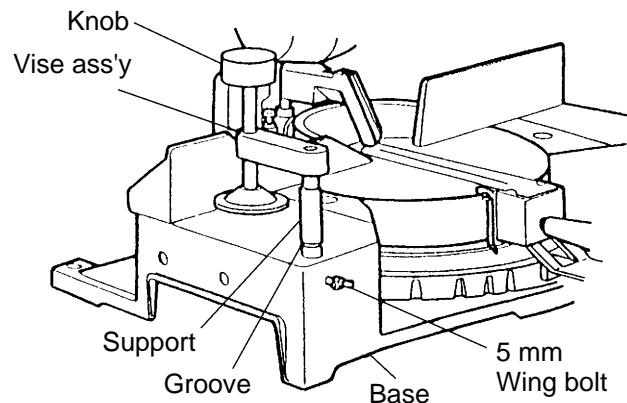
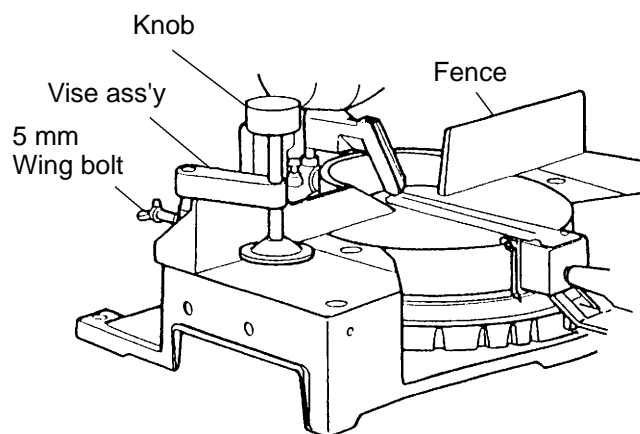

Fig. 6
Fig. 7
(1) The vise ass'y can be mounted on the left side of the base, and can be raised or lowered according to the height of workpiece.
- ① Insert the support of the vise ass'y into the hole located on the front of the base.
- ② Then tighten the 5 mm wing bolt, as shown in Fig. 6.
- ③ Turn the knob to thoroughly clamp the workpiece.
(2) The vise ass'y can be mounted on either the left side fence or the right side fence, and can be raised or lowered according to the height of the workpiece.
- ① Insert the support of the vise ass'y into the hole located on either the left side fence or the right side fence.
- ② Then tighten the 5 mm wing bolt, as shown in Fig. 7.